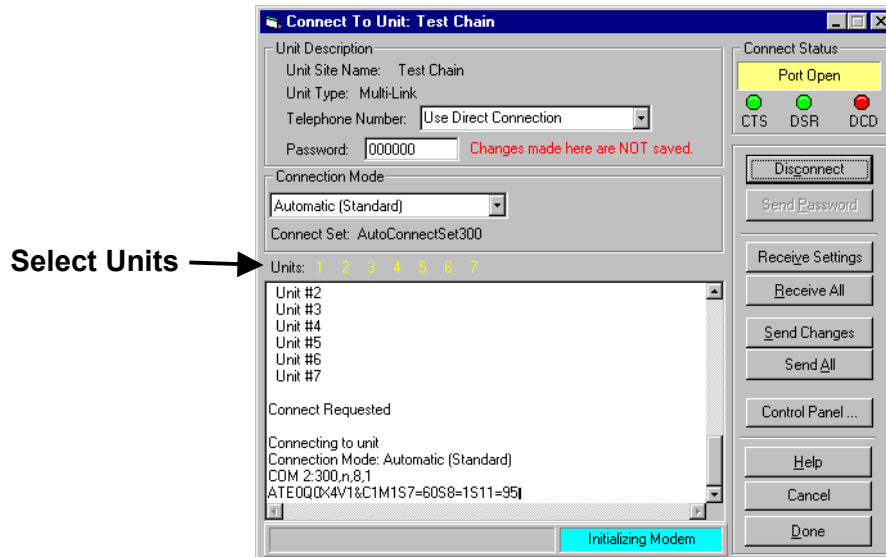

Figure 9: Connect to Unit Window (Multi-Link)
- 3 Click on the Connect button. The Connect To Unit window will be displayed (Figure 9).